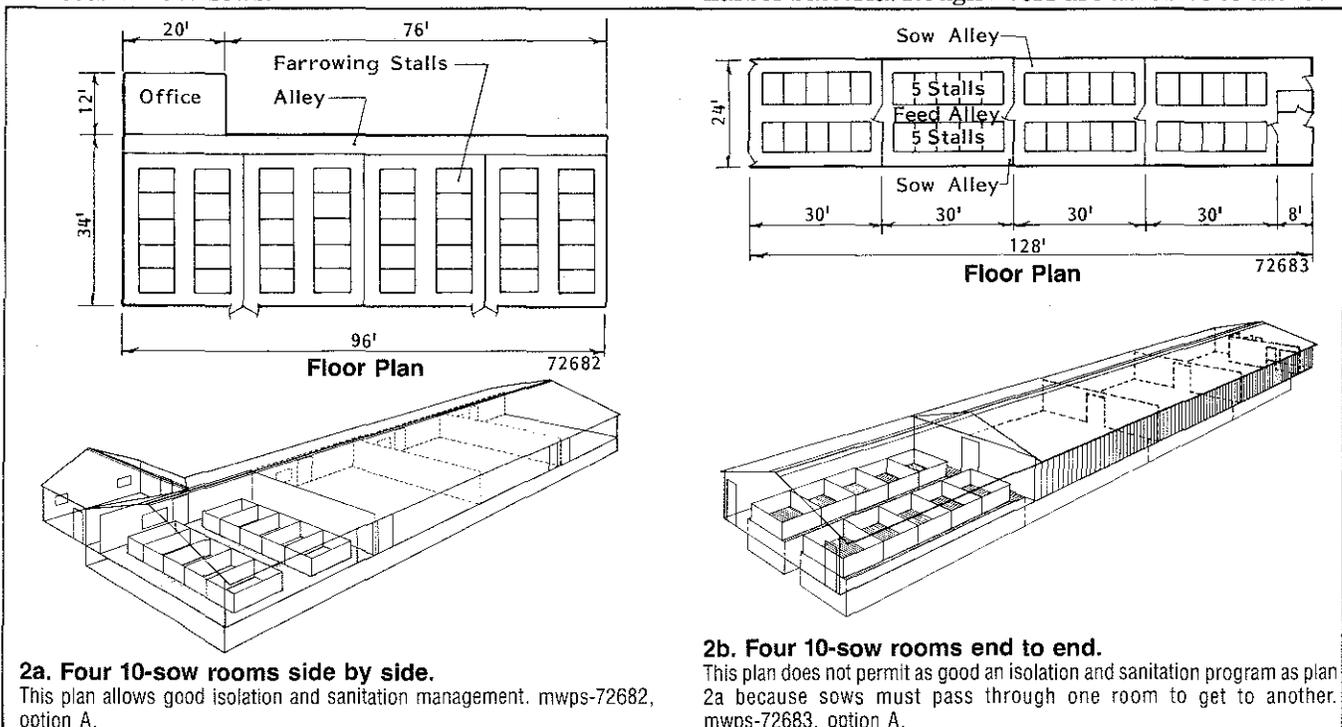

Fig 2. Multi-room farrowing buildings.
- **Farrowing Each Week.** Some large producers farrow a set number of sows (usually 8 to 12) each week in separate, small farrowing rooms, Fig 2. Weekly farrowing provides better overall management and full use of specialized labor and facilities, resulting in groups of sows bred weekly, litters born within the same week, and rooms that can be emptied and disinfected between groups. Provide at least 4 farrowing rooms for 3-week weaning—5 rooms for 4-week weaning. An additional room allows time for more convenient cleanup and space for farrowing excess or late sows.